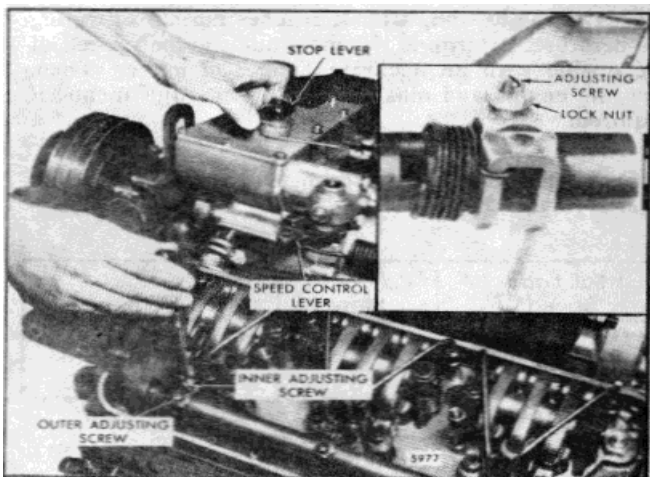

Fig. 2. - Positioning No. 1 Injector Rack Control Lever
4. Move the stop lever to the *run* position and hold it in that position with light finger pressure. Tighten the adjusting screw of the No. 1L injector rack control lever until the injector rack clevis is observed to roll up or an increase in effort to turn the screwdriver is noted (Fig. 2). Tighten the screw approximately 1/8 of a turn more and lock securely with the adjusting screw locknut. This will place the No. 1L injector rack in the full-fuel position.